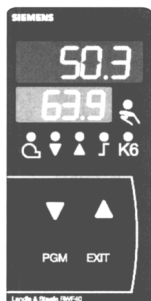

Fig. 25
- 9 Keep pushed for 5 seconds the EXIT button on the modulator (Fig. 25); when the LED with the hand symbol lights up, press the arrow button, driving the actuator to the maximum opening position progressively;